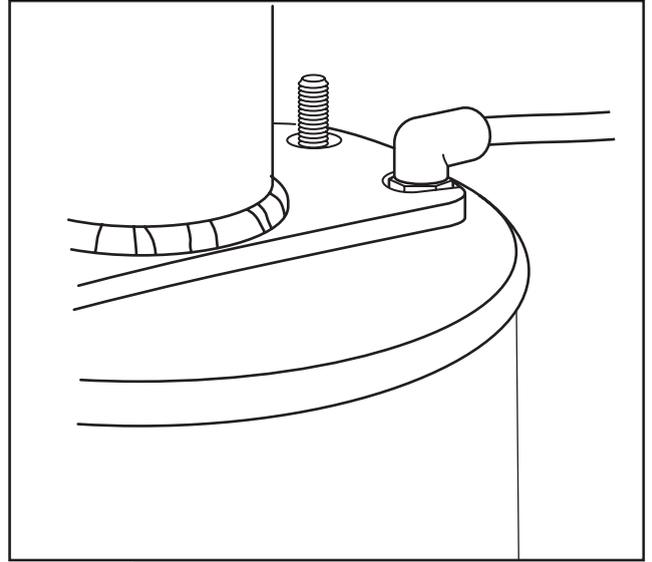

Fig 4.7
3. Align and locate the air inlet and mounting stud respectively in the slot and hole on the pedestal (Fig 4.7).